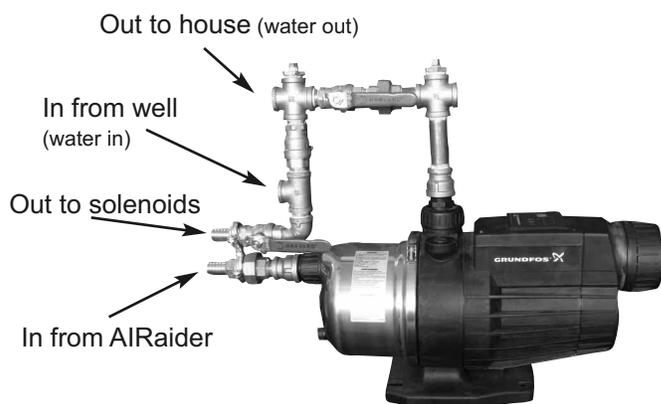

Figure 4
3. Attach all hoses and hose clamps as per plumbing diagram (see Figure 4).* All hose clamps must be tightened to prevent leakage. Never substitute hose provided without consulting manufacturer. Usage of the wrong hose will result in water leakage and possible system damage.
4. Plumb water line from the existing pressure tank into the bypass opening labelled "Water In" (See Figure 4). *Bypass pictured may vary from bypass supplied.*
5. Plumb water line to house into the bypass opening labelled "Water Out" (See Figure 4).